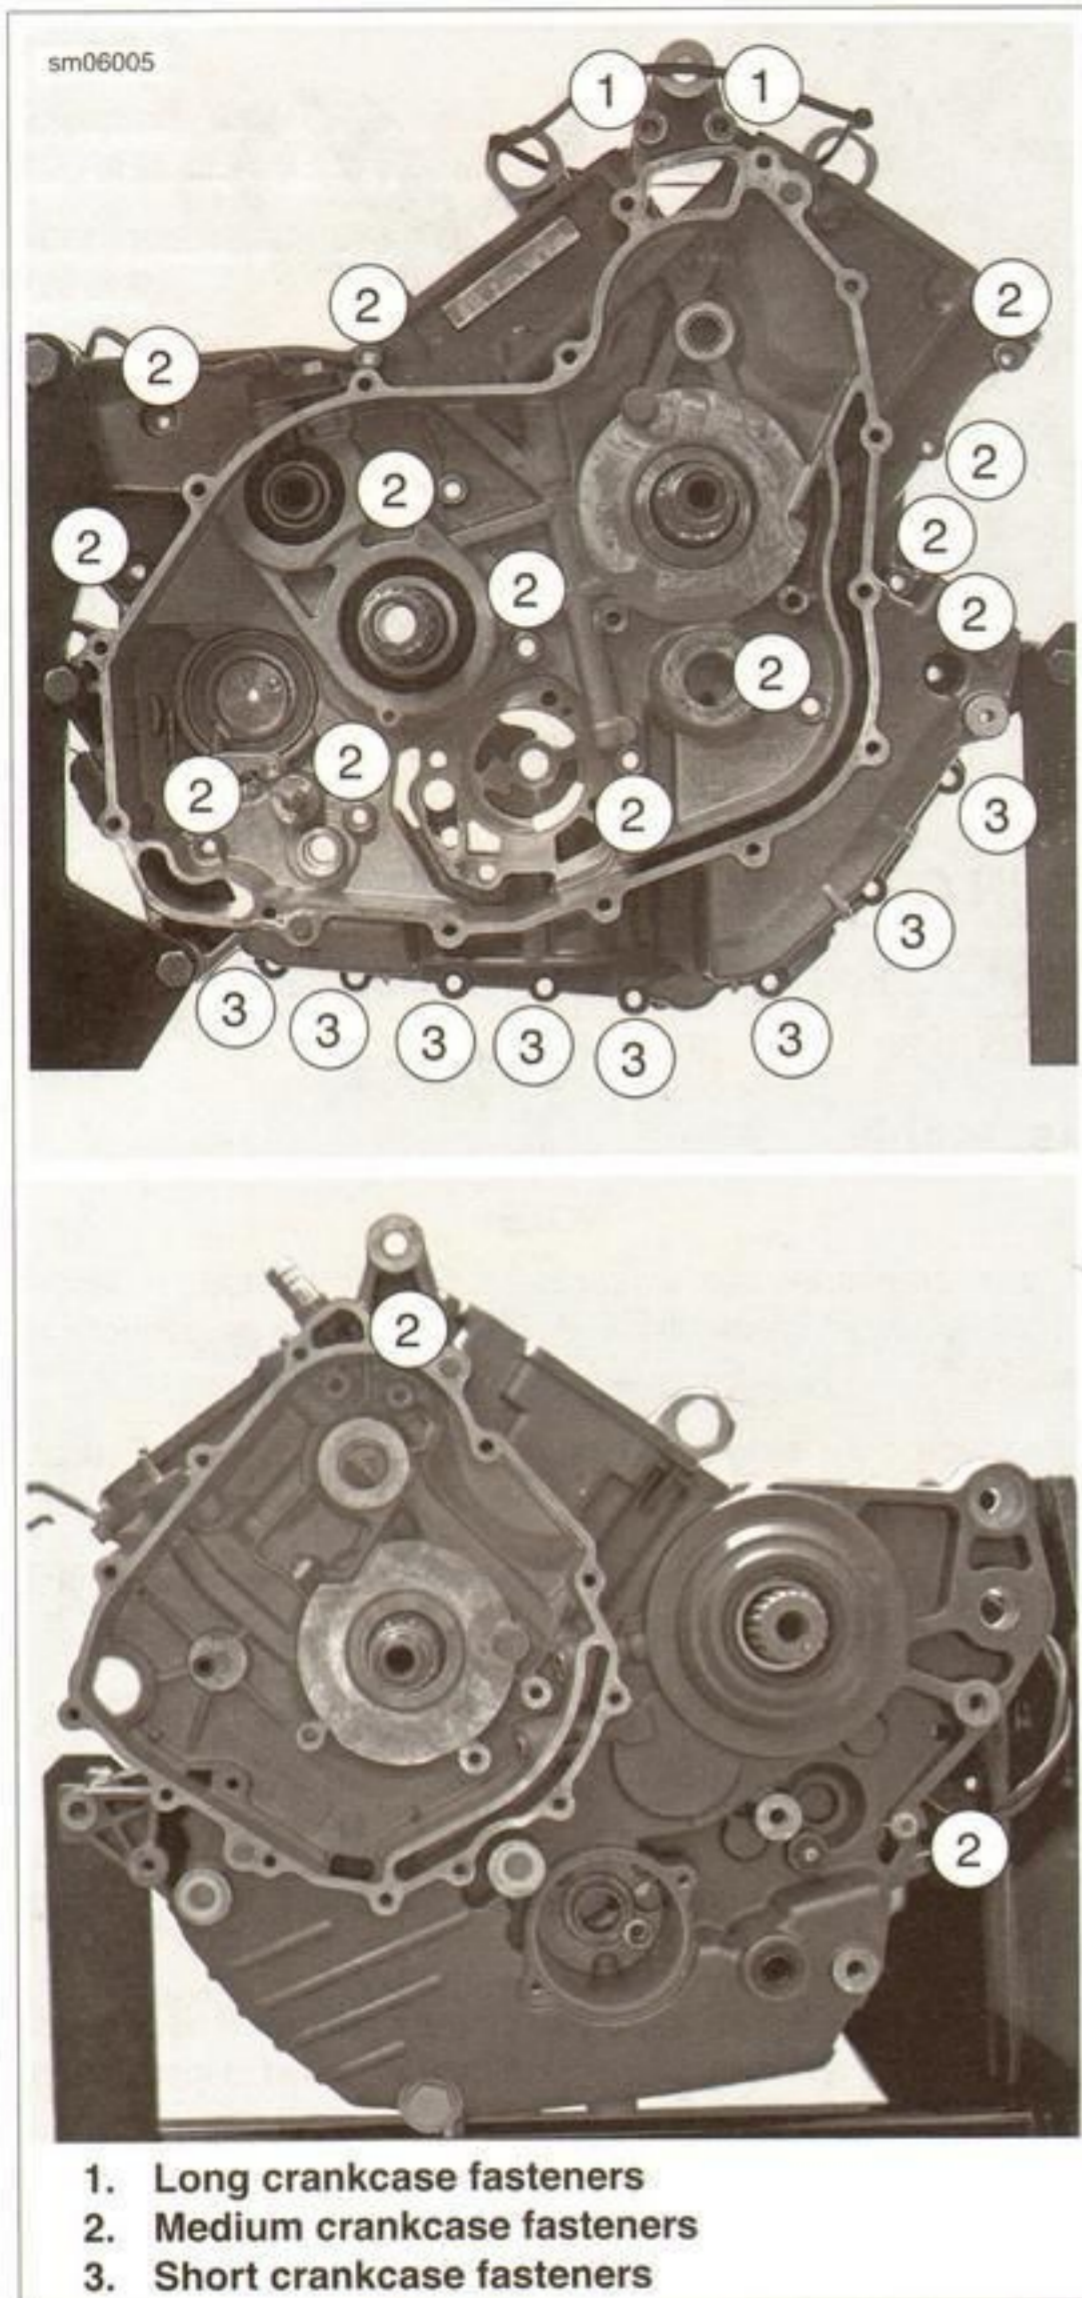

Figure 3-188. Crankcase Fasteners
6. See Figure 3-188. Loosely install long, medium and short crankcase fasteners in positions shown.